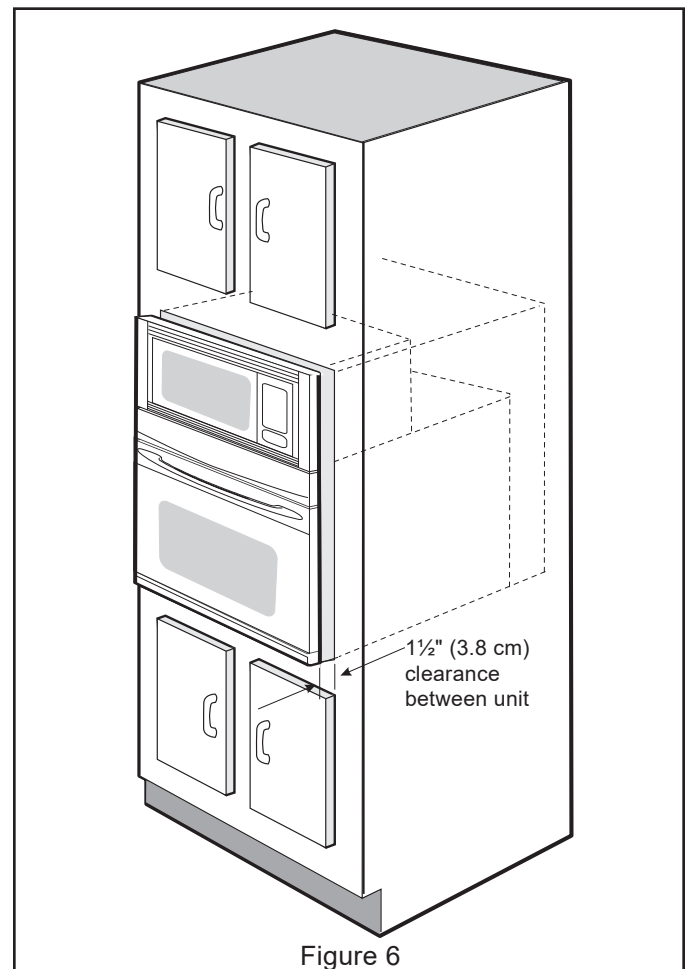

Figure 6
3. Insert the oven into the cabinet opening. Slide oven inward leaving 1½" (3.8 cm) clearance between the oven and front of cabinet (see Figure 6).